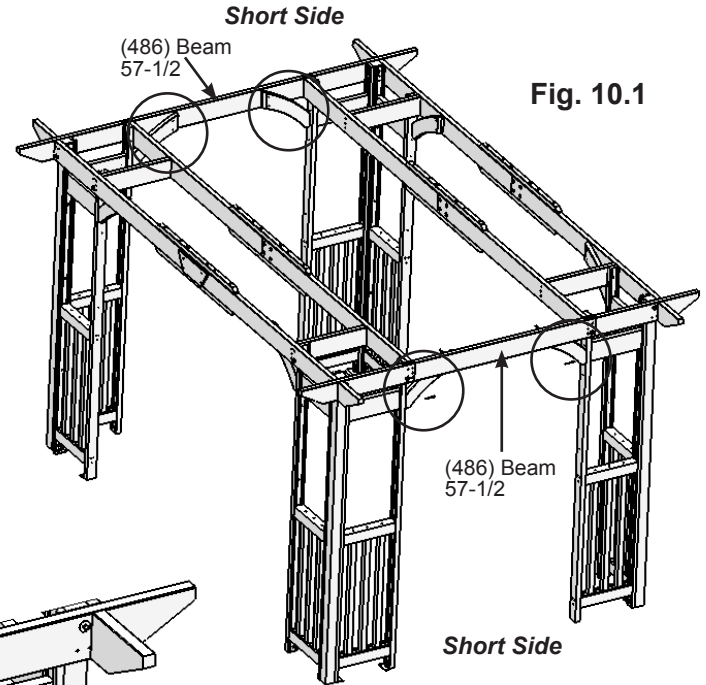

Fig. 10.1
A: Make sure the assembly is still square and level then from the inside of the assembly, facing one (486) Beam 57-1/2 place one (483) Arch Gusset Right on the right hand side so the top fits tight to (486) Beam 57-1/2 and the bottom fits tight to the side and flush to the front of (528) Panel Post and bottom of (581) Top Horizontal. Attach gusset to (486) Beam 57-1/2 with two #8 x 2-1/2" Wood Screws and to (528) Panel Post with one #8 x 3" Wood Screw. Repeat for the left hand side with one (484) Arch Gusset Left. (fig. 10.1, 10.2 and 10.3)